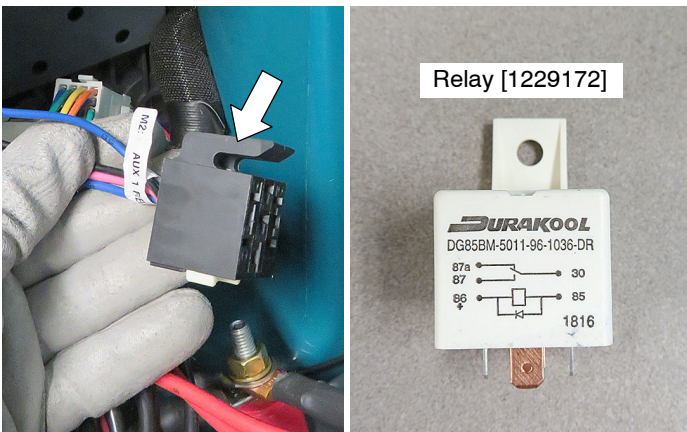

Fig. 36
2. Locate the open M2 AUX RELAY harness connector. Plug the relay into the connector (Figure 36).